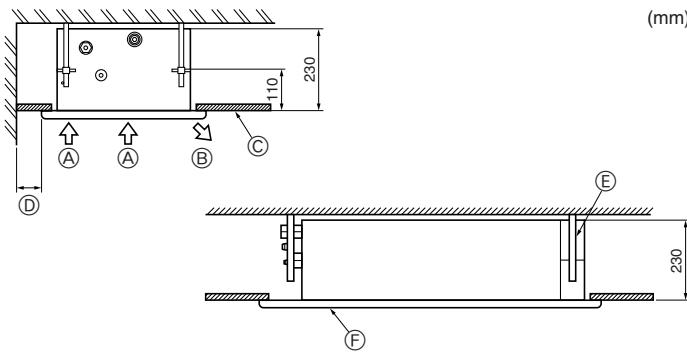
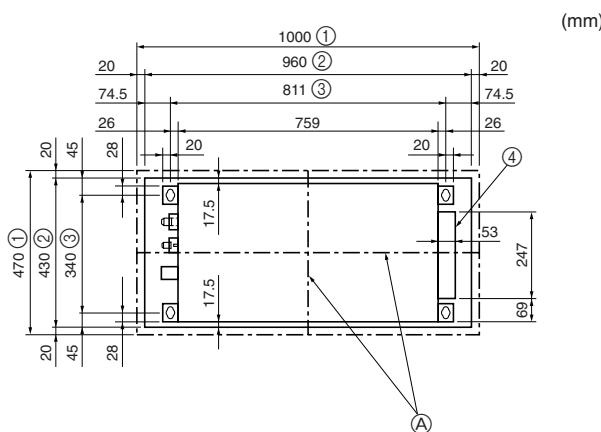

Fig. 2-2
Fig. 2-3
2.2. Service space (Fig. 2-2)
- (A) Air intake
- (B) Air outlet
- (C) Ceiling panel
- (D) Min. 200 mm
- (E) Suspension bolts W3/8 or M10
- (F) Grille
2.3. Ceiling openings and suspension bolt installation locations (Fig. 2-3)